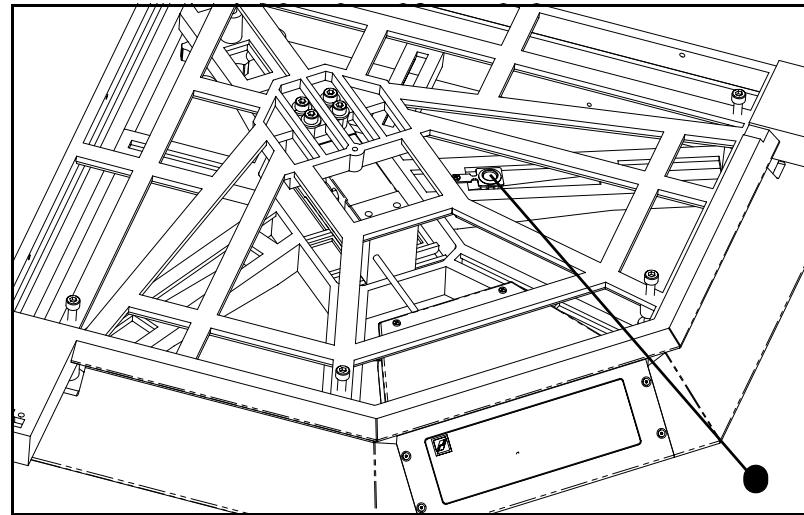

Figure 11
2. Figure 11 shows the location of the leveling bubble. Look at the leveling bubble and determine if the CubiScan 100-L is level.